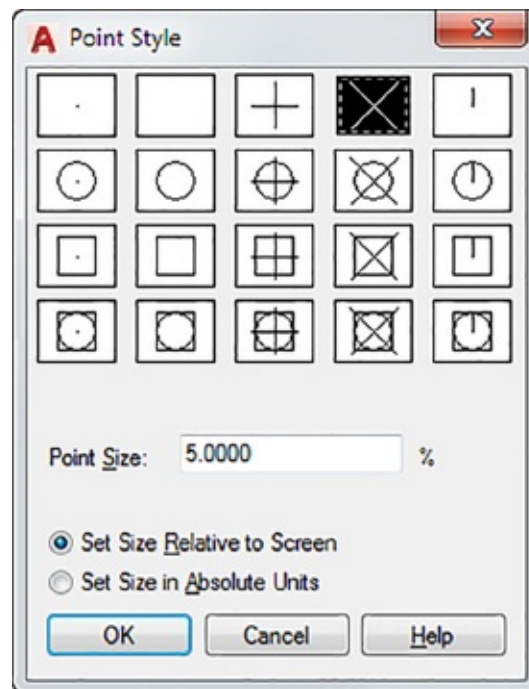

FIGURE 18.25 The Point Style dialog box
5. Choose Point Style from the Home tab's expanded Utilities panel or type **DDPTYPE** ↵ to open the Point Style dialog box (see Figure 18.25).